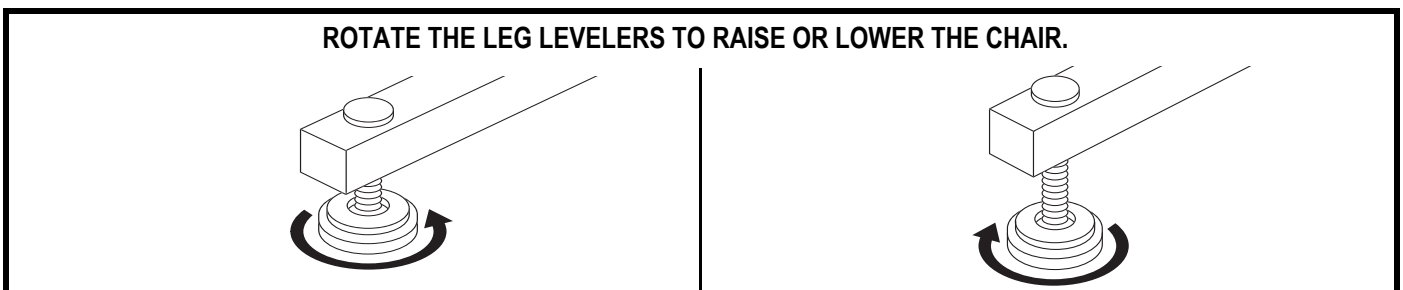

Figure 2. Leg Levelers
Leg Levelers: Manually rotate up or down in order to stabilize the chair before use (Fig. 2).
2. Adjust the leg levelers to stabilize the lift chair (**Fig. 2.**).